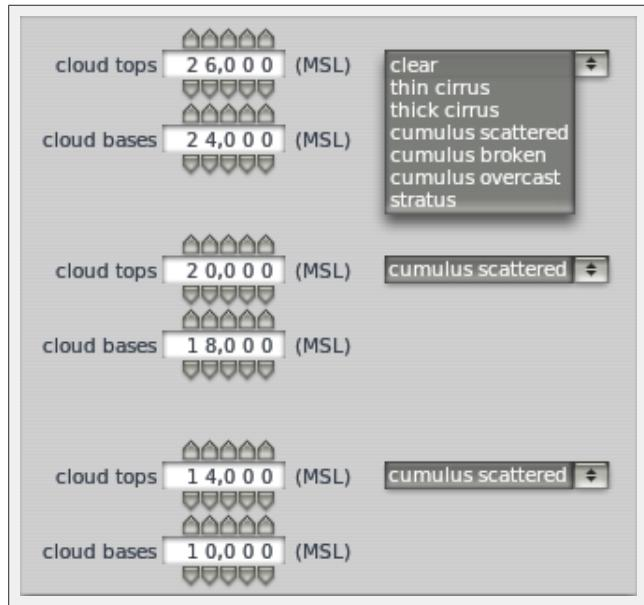

Figure 4.5: Setting the cloud coverage for the whole world [Full size →]
3. Using the three cloud drop-down menus (found in the upper left of the screen, and pictured in Figure 4.5), set the cloud types to "clear" or "cumulus overcast" for max frame rate. For a good frame rate, set them to "thin cirrus" or "stratus." "Cumulus scattered" or "cumulus broken" take a lot of computing power to display.